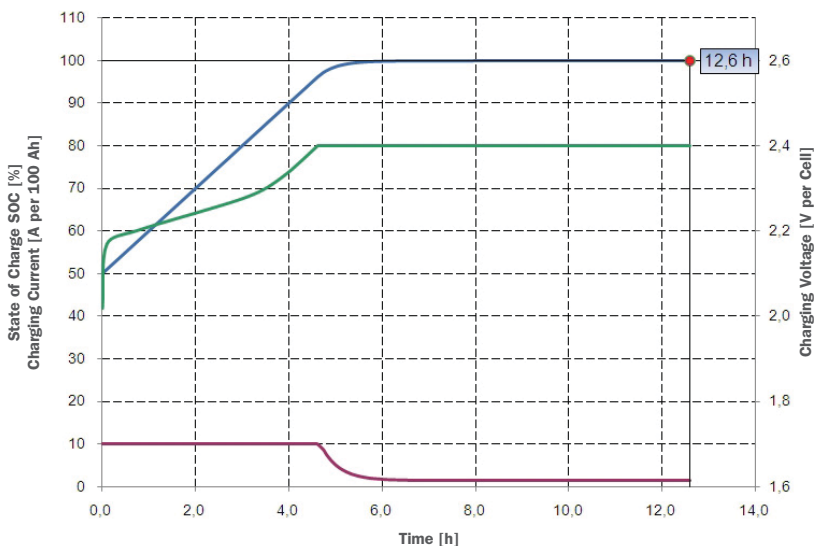
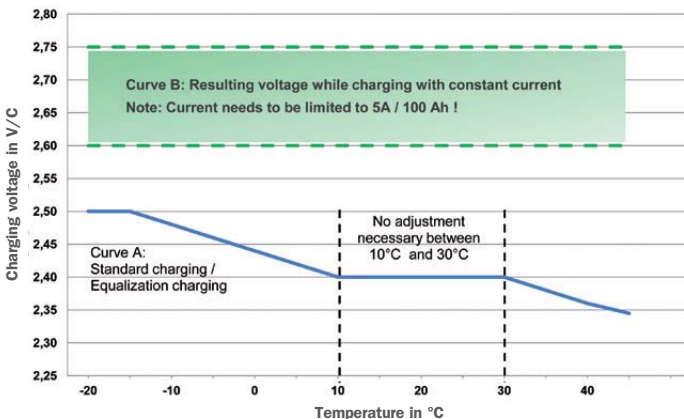

Fig. 7-1: Charging characteristic of OPzS solar.power cell at 50% DoD
Fig. 7-2: Charging voltage as a function of temperature in solar cycling operation
The chart below (refer to *figure 7-1*) demonstrates the OPzS solar.power recharge characteristic (IU-characteristic) after discharge with 50% DoD (Depth of Discharge).
Charging procedure shall be compliant to IU- or IUg-characteristic (refer to example *fig. 7-1*). Recommended charging voltages for cyclical applications2 are depicted in *fig. 7-2*.
Used for regular recharge after every battery discharge. The charging procedure shall comply to IU-characteristic with 2.4 V/cell (refer to curve A in fig. 7-2). Note: Up to 2.4 V/C the charging current is theoretically not limited. However the recommended charging current is 5 A to 20 A3)/100 Ah nominal battery capacity ( $C_{10}$ ).
Charge with IU-characteristic as described above. Keep the charging current at 5 A/100 Ah nominal battery capacity ( $C_{10}$ ) as soon as the current has dropped to this value during constant U-phase. During Ia phase the charging voltage ranges between 2.6 to 2.75 V/C (refer to curve B in fig. 7-2). Ia phase should last either 2 or 4 hours (refer also to chapter 7.5 Charging procedure for cyclic applications).
If the battery is fully charged the charging voltage needs to be adjusted to normal float charge voltage for standby batteries as given in the HOPPECKE operating instructions (2.23 V/cell at temperature between 10 °C and 30 °C; refer to fig. 7-1).
- Max. 2.4 V/Cell up to 72 hours (refer to curve A in fig. 7-2). Note: Up to 2.4 V/C the charging current is theoretically not limited. However a restriction of max. charging current to 20 A/100 Ah nominal battery capacity ( $C_{10}$ ) is reasonable. In case of charging voltages above 2.4 V/C the charging current needs to be restricted to 5 A/100 Ah battery capacity ( $C_{10}$ ). Resulting voltage range is 2.6 to 2.75 V/C (refer to curve B in fig. 7-2).
Temperature dependent voltage adjustment as shown in fig. 7-2: